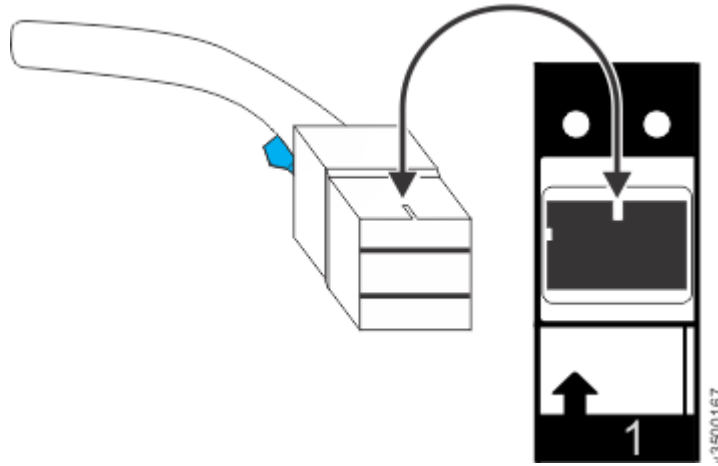

Figure 121. Proper orientation for SAS cable connector
- Figure 121 on page 188 shows the correct orientation. The blue tab is always below the port for expansion enclosure attachment SAS cables.